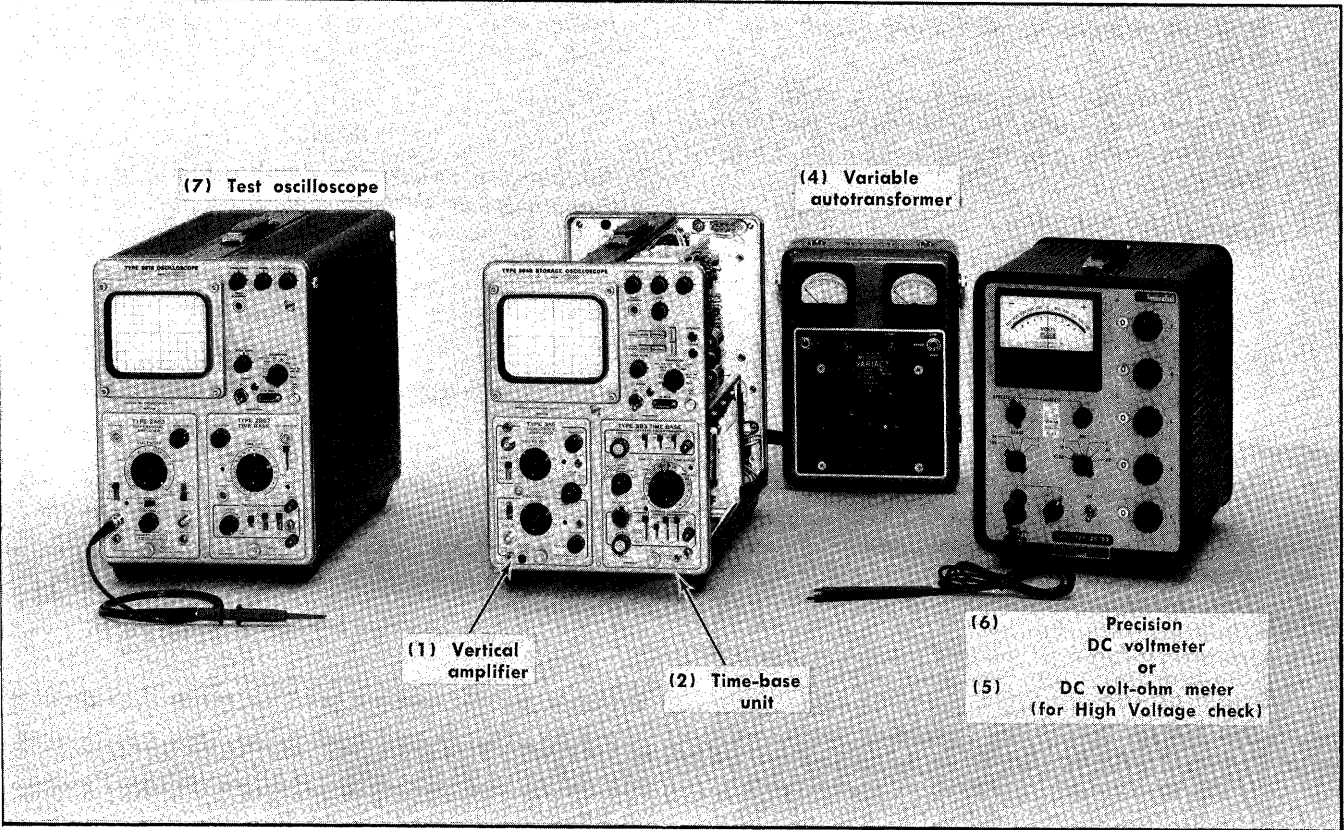

Fig. 5-1. Test equipment required for steps 1 through 6.
a. Test equipment required for steps 1 through 6 is shown in Fig. 5-1. The illustrated equipment is keyed to that listed under Test Equipment Required.